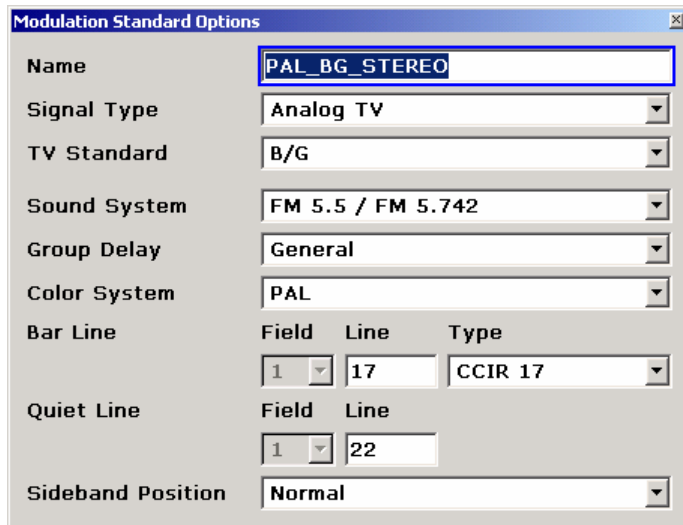

Fig. 2-66 Analog TV modulation standard PAL_BG_STEREO
The **Modulation Standard Options** dialog box appears (see for example Fig. 2-66).
- The **Modulation Standard Options** dialog box should now look as in Fig. 2-66.
The **Modulation Standard Options** dialog box is displayed (see for example Fig. 2-66).